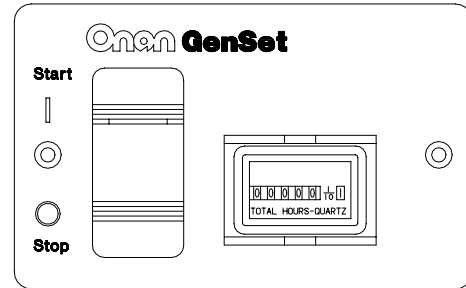

FIGURE 14. REMOTE CONTROL / HOUR METER
- Remote start/stop switch with status indicator light and hour meter (Figure 14).